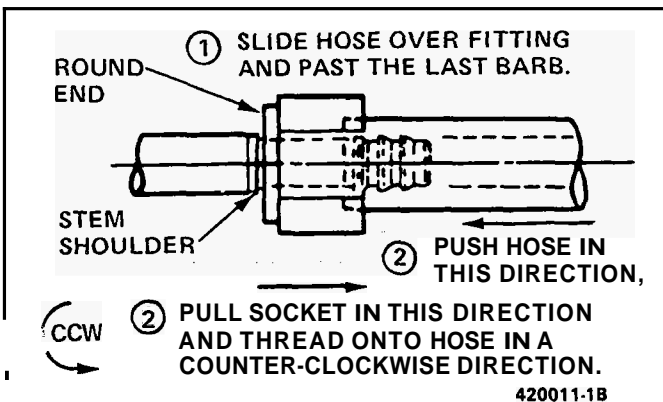

Figure 1B-11 Nylon Line Filter Installation
- Apply a small amount of lubricant to inside of socket and slide over barbed end of can fitting, round end towards can and hex end away from can (Figure 1B-11).
- Push cut end of hose over barbed end of can fitting until all barbs are covered. Hose end should be 1/8 inch past last barb (Figure 1B-11).
- Approximately 1/8" of hose end should protrude from round end of socket when socket has been adequately threaded onto hose (Figure 1B-11).